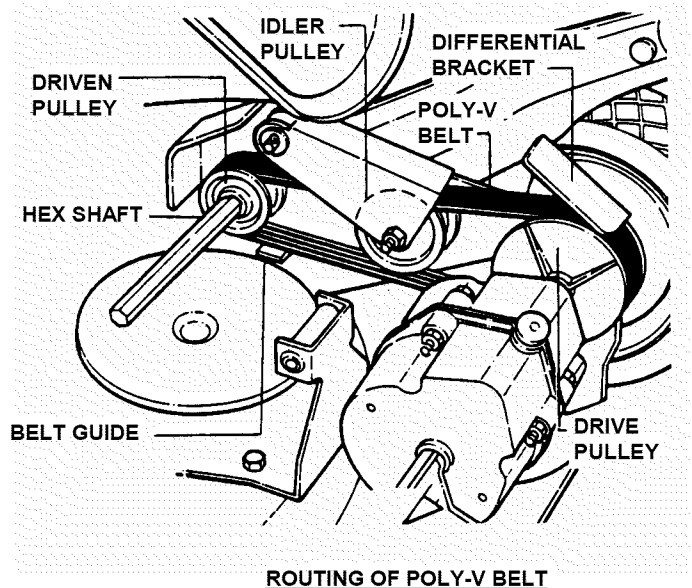

FIGURE 4.18
2. Note the routing of the old belt around the three pulleys before removing it. See Figure 4.18.